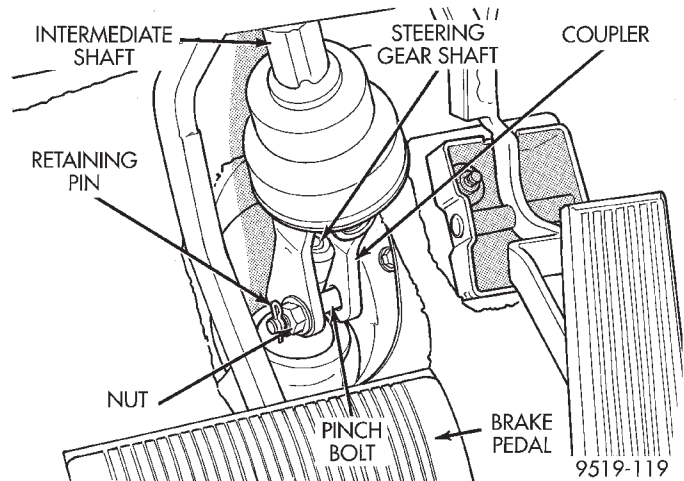
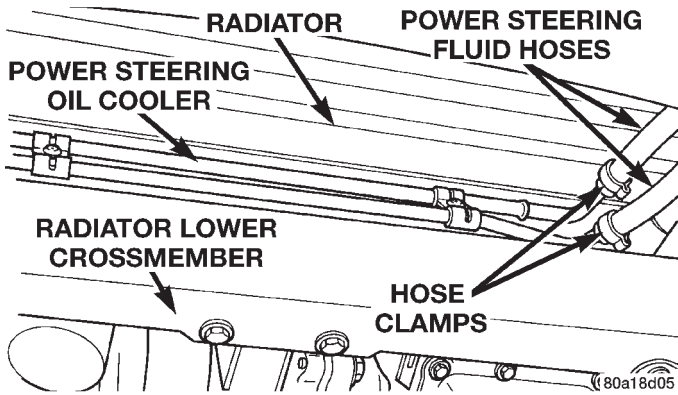

Fig. 45 Intermediate Shaft Coupler Attachment To Steering Gear
Fig. 46 Hose Clamps At Power Steering Fluid Cooler
(1) Remove the intermediate steering shaft coupler (Fig. 45) from the steering gear shaft.
(2) Siphon as much power steering fluid as possible from the power steering fluid reservoir.
(3) Raise the vehicle using a frame contact type hoist or supported as required using jack stands. See Hoisting in the Lubrication and Maintenance group of this service manual for the required hoisting or jacking procedure to be used for this vehicle.
(4) Remove the left front wheel/tire.
(5) Remove the front fascia and the grill as an assembly from the vehicle. Refer to Front Bumper/Fascia in Group 13 of this service manual for the proper procedure.
(6) Remove the hose clamps (Fig. 46) from the power steering fluid hoses. Drain power steering fluid from the hoses and the power steering fluid cooler.
(12) Install the hose clamps on the power steering fluid hoses.
(13) Install power steering fluid hoses on the power steering fluid cooler. (Fig. 46). **Be sure hose clamps are installed on hose past the upset bead on the power steering oil cooler.**
(14) Using Crimper, Hose Clamp, Special Tool C-4124 properly crimp the clamps on the power steering fluid hoses at the power steering oil cooler.
(15) Install the front fascia and grill on the vehicle. Refer to Front Bumper/Fascia in Group 13 of this service manual for the proper procedure.
(16) Lower the vehicle to a point where front tires are just off the ground.
(17) Connect the steering column intermediate shaft on the shaft of the steering gear (Fig. 45). Install the coupler retaining pinch bolt and tighten to a torque of 27 N·m (240 in. lbs.). **Be sure to install the coupler retaining pinch bolt retention pin (Fig. 45).**
(18) Start the engine and let run for a few seconds. Then turn the engine off.
(19) Add fluid if necessary. Repeat the above procedure until the fluid level remains constant after running the engine.
(20) Start the engine. Slowly turn the steering wheel right and left, lightly contacting the wheel stops.
(21) Add power steering fluid if necessary.
(22) Stop the engine. Check the fluid level and refill as required.
(23) If the fluid is extremely foamy, allow the vehicle to stand a few minutes and repeat the above procedure.